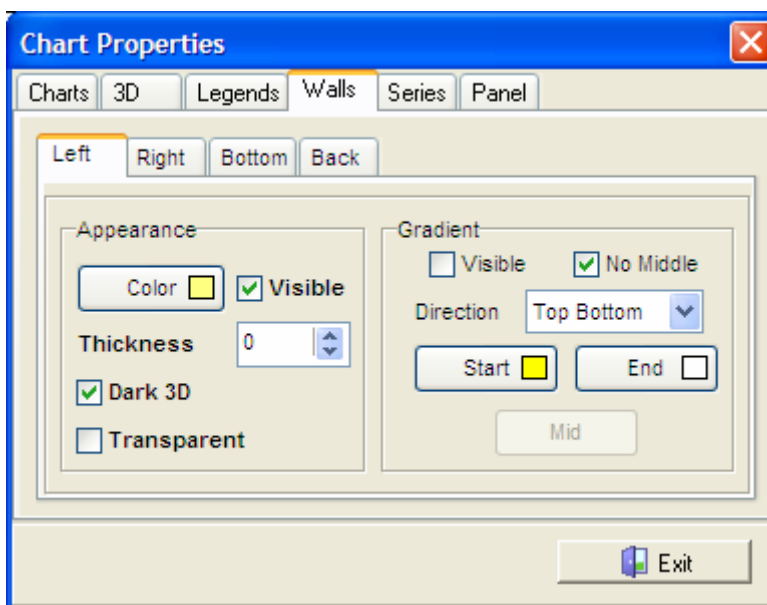

Figure 7.25 Chart Properties dialog box, Walls tab
1. To view the chart wall properties, click the Walls tab in the Chart Properties dialog box (Figure 7.25).
These settings determine the appearance of the left, back, and bottom walls in a three dimensional chart (Figure 7.25).